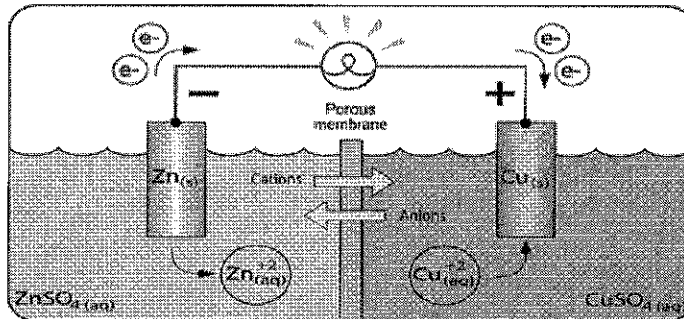

Figure 4(b) / Rajah 4(b)
- CLO1 (b) Figure 4(b) below shows the electron loss of a metal reacting with another metal in an electrolyte.
- i. Assign the type of corrosion shown in Figure 4(b).